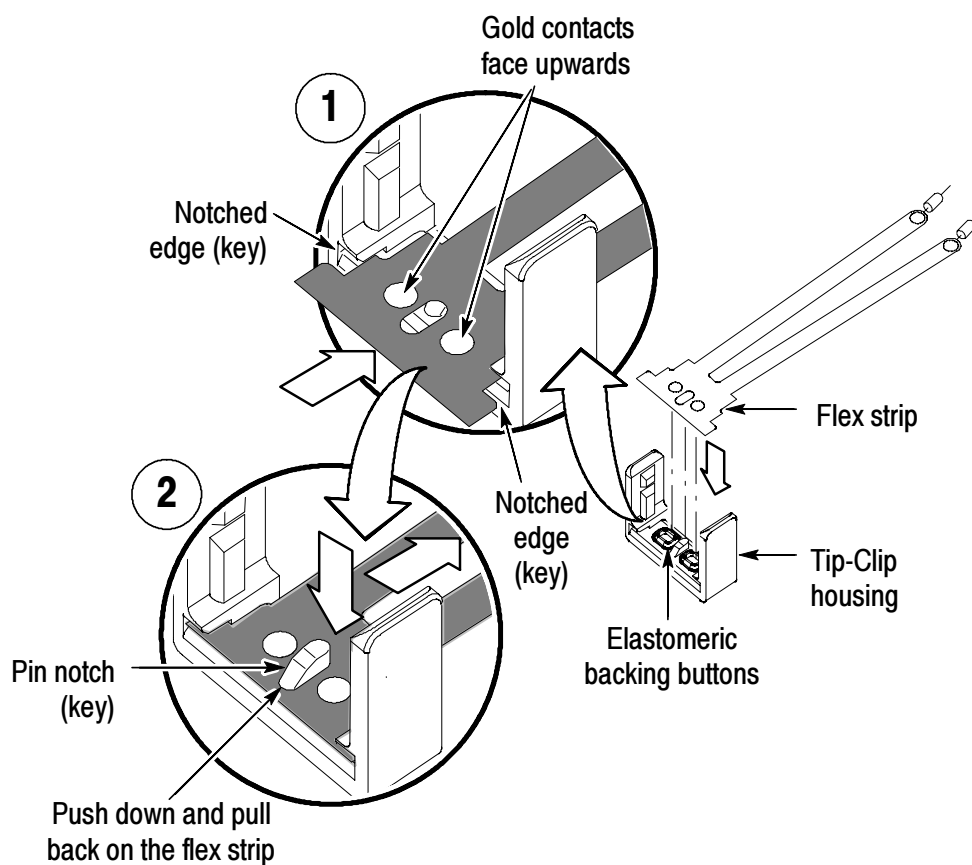

Figure 18: Reinstalling the flex strip
1. Ensure that the two elastomeric backing buttons are in place in the Tip-Clip housing. Position the flex strip and Tip-Clip housing as shown in 1 of Figure 18.
2. Reinstall the flex strip as shown in 2 of Figure 18. Check that the flex strip is seated evenly against the Tip-Clip housing.